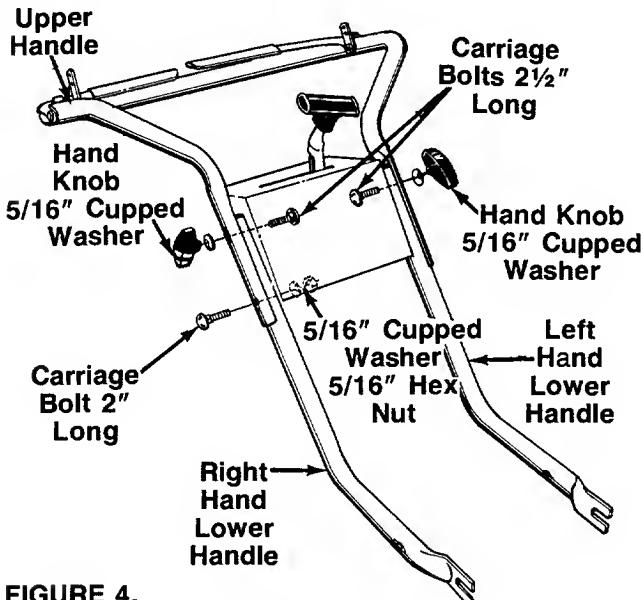

FIGURE 4.
1. Preassemble the upper and lower handles to the handle panel as shown in figure 4.